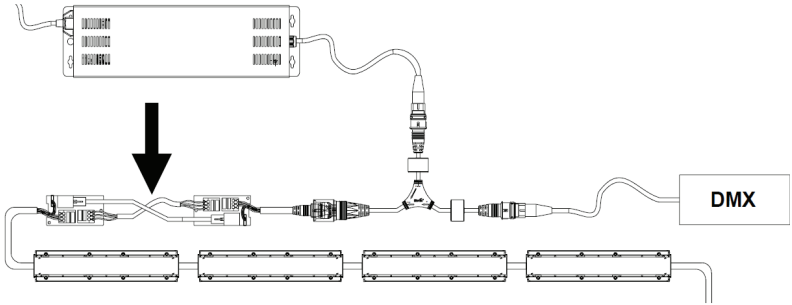

Figure 21: Extending the link to the first fixture
1. See Figures 21 and 22. If you need to extend the distance between the Power Inserter cable and the first fixture, either insert a Tripix Extension Cable or use both a CAT5e data cable and a power cable (arrowed) in Tripix Cable Adapters.